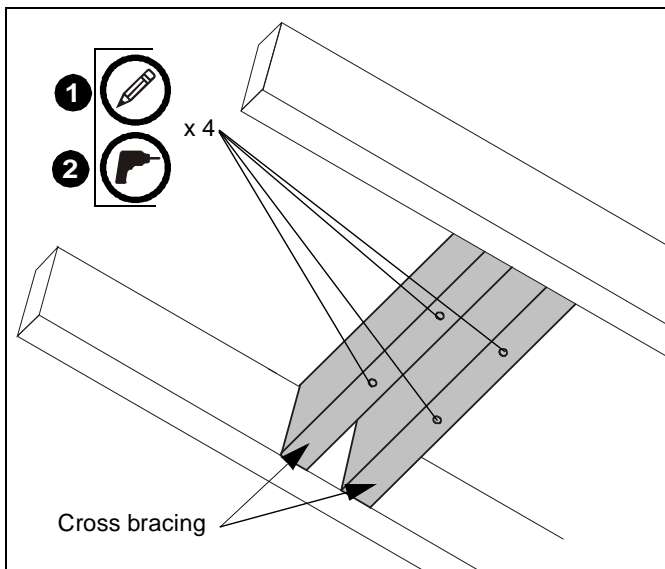

Figure 1
1. Using floor/ceiling flange (A) as a template, mark locations of four pilot holes (See Figure 1). Ensure the marks are in the center of wood joists.
2. Drill 7/32" diameter pilot holes into wood stud cross bracing. (See Figure 1) Ensure pilot holes are straight.
3. Install UL Listed CPA or CMS Extension Column Series (not included) into floor/ceiling flange (A).
4. Loosely install two 5/16" x 1/2" set screws (E) into threaded holes.